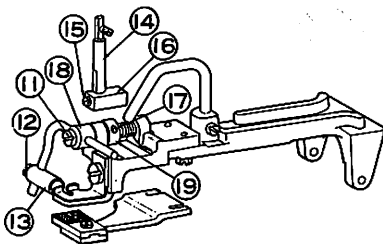

Fig. 35
Next, loosen the screw ⑪ ⑫ Fig. 35 and make adjustment so that the shank button holding clamp ⑬ holds the exact center of the button.
To adjust the holding pressure of the shank button holding clamp ⑬, loosen the thrust collar set screw ⑰, Fig. 35, and if the thrust collar ⑱ Fig. 35 is rotated, the pressure of the spring will change, so set it at an optimal pressure.
When you do this, be sure that the button clamp lever holding ⑱ Fig. 35 will not develop any rattling along the shaft direction.
The holding pressure of the button holding clamp ⑬ Fig. 35 should be sufficiently strong enough so that the button does not move during the stitching operation.